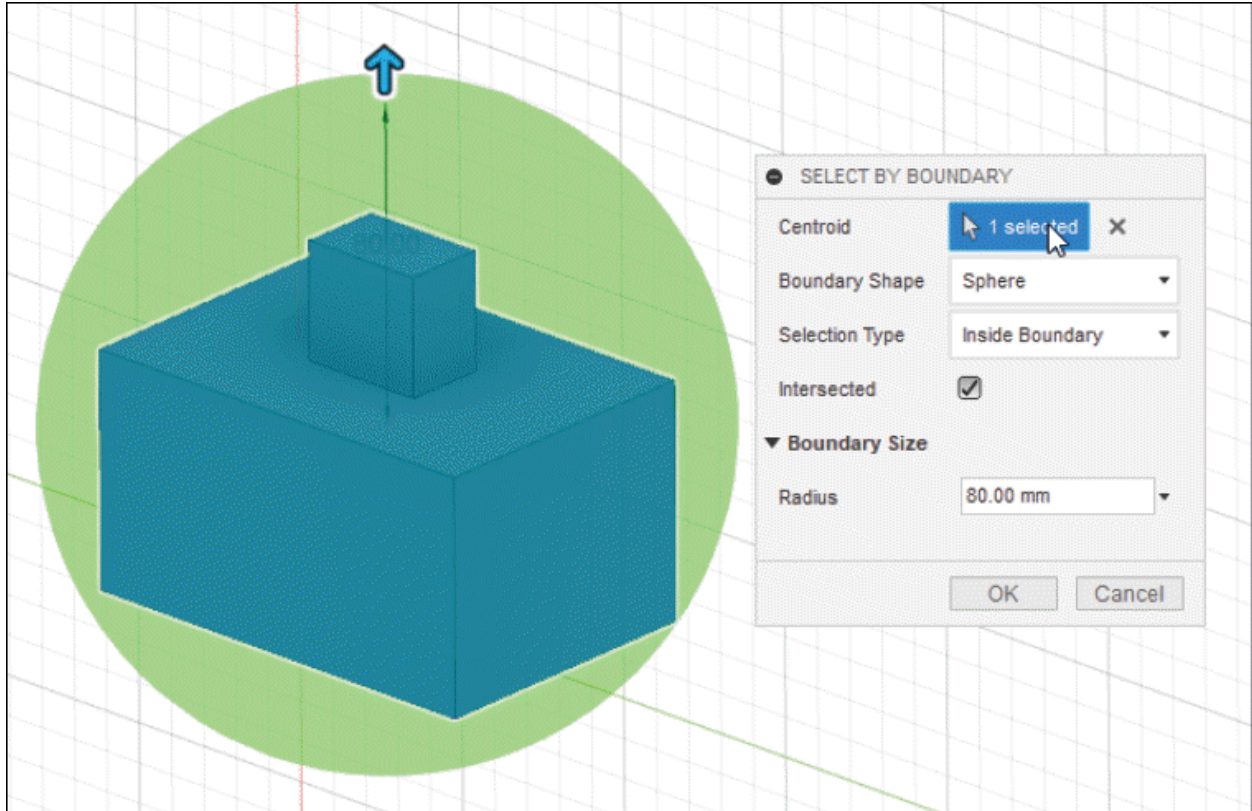

Figure-19. Sphere boundary preview
- Click on desired point in the model to place centroid of boundary shape. Preview of boundary will be displayed; refer to Figure-19.